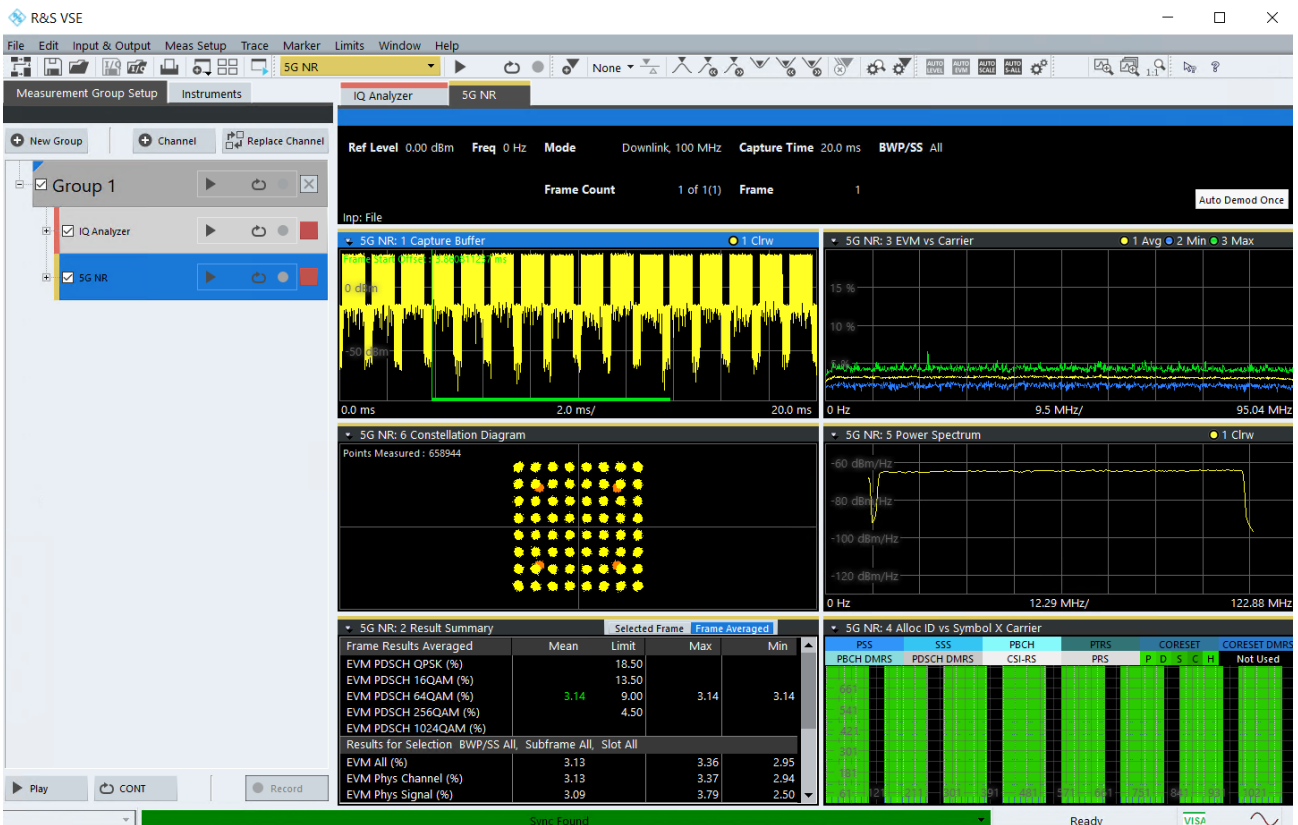

Figure 2-28 5G NR measurements in VSE (standard items)
- In case signal analysis in VSE is desired (as described above in Step 3), open the VSE window (already run in the background) will populate the 5G NR measurement results, like constellation diagram, EVM vs. Carrier, power spectrum etc (Figure 2-28).